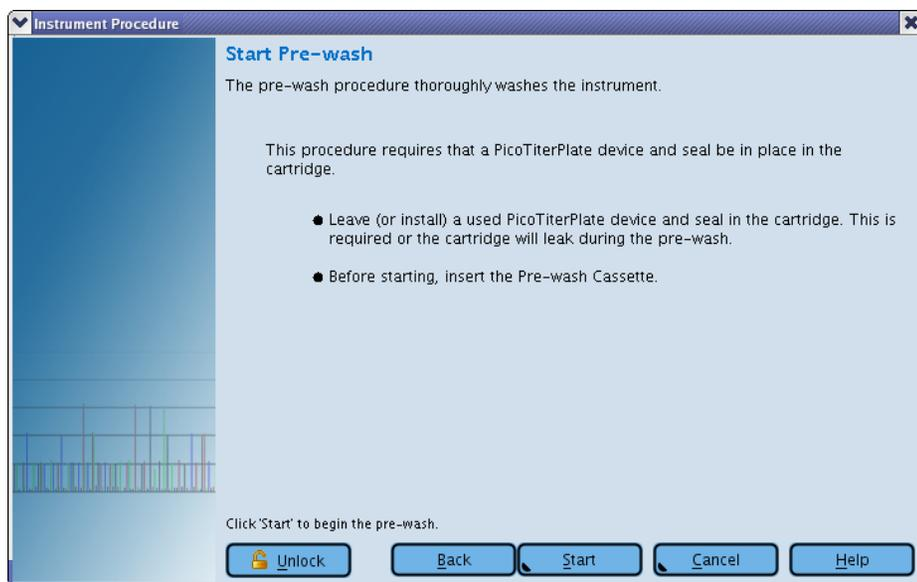

Figure 8: The Run Wizard’s second window (last Wizard window for Pre-wash): Start Pre-wash
- This opens the Run Wizard's second window: Start Pre-wash (Figure 8).